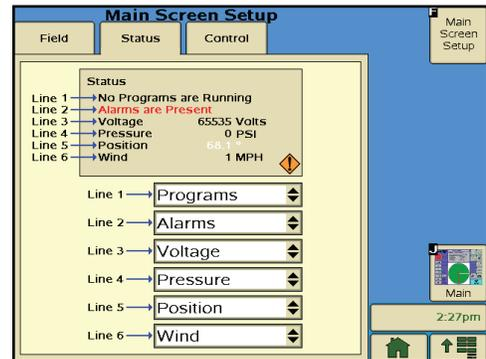

Figure 36-1 Status Setup
- (a) Select a Line field and choose a status from the drop-down menu. Choose **Empty** if you want to leave the field blank. See Figure 36-1.